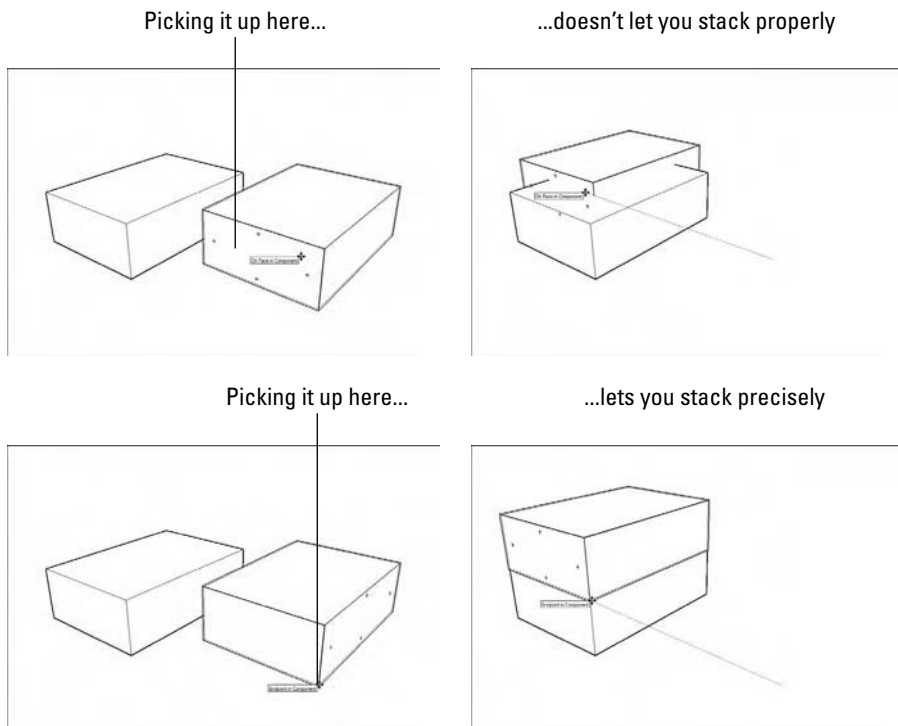

Figure 2-19:
- ✓ **Click a point that will let you position it *exactly* where you want when you drop it (instead of just clicking anywhere on the thing you're trying to move to pick it up).** Figure 2-19 shows two boxes that I want precisely to stack on top of each other. If I just click anywhere on the first box and move it over the other one, I can't place it where I want; SketchUp just doesn't work that way.